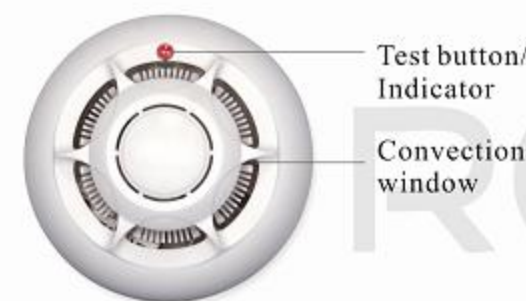

Fig3. Indicator LED and Test button
- Power the detector through the power adapter (Figure 3);